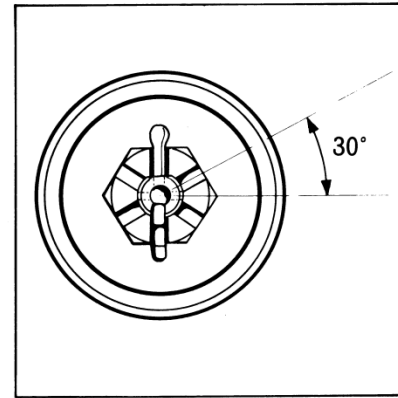

Figure 2 Hub retaining nut.
4. Slacken the nut back until a bearing end float of between 0.051-0.152 mm (0.002-0.006 in) is obtained. A dial gauge is preferable for this measurement but if not available, slacken off the retaining nut half a flat, equivalent of 30°. See Figure 2. If the split pin hole in the stub axle shaft does not line up with the castellated nut, slacken the nut a little further until it does.